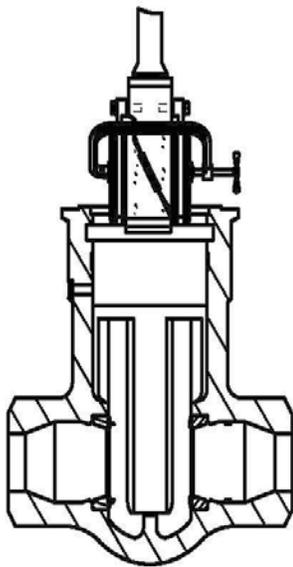

Figure 18
6.4 Disc Pack & Stem Assembly (Figs. 18 & 19)
- c) Before the disc pack is free of the body guides, C-clamps should be installed as shown in Fig. 18. This will prevent the discs from disengaging from the upper wedge and falling causing damage or injury.
- f) If further disassembly is required, the lower wedge (071) can now be separated from the upper wedge (069). In most valves, a wedge spring (269) is fitted between the upper and lower wedges in order to prevent premature wedging if the valve is installed in a vertical